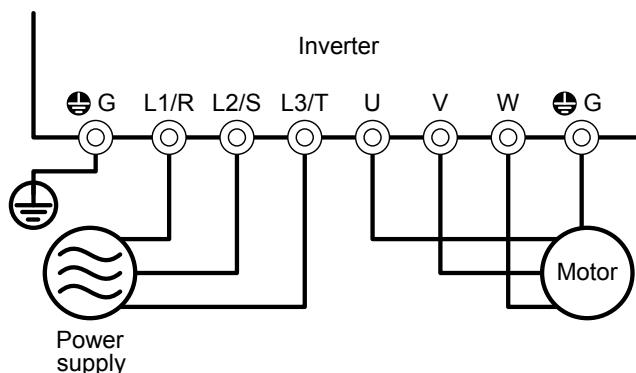

Figure 5.17 Connection of Main Circuit Terminals
- (1) Check that the wiring is correct.
Especially check the wiring to the inverter input terminals L1/R, L2/S and L3/T and output terminals U, V, and W. Also check that the grounding wires are connected to the grounding terminals (G) correctly. See Figure 5.17.